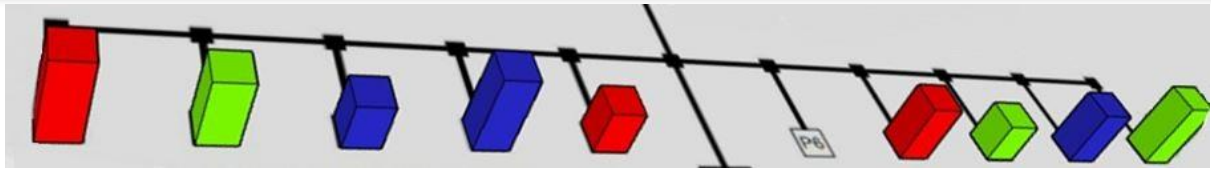

Figure 1(b): An Example Placement of Pizza
- Pizza:** Thermocol blocks represent pizzas, which are placed on the **Pick-up points**. Note that some **Pick-up points** may be empty. Three different flavors of pizza are represented by three colors Red (R), Blue (B) and Green (G) and three different sizes of pizza namely Large (L), Medium (M) and Small (S) are represented by three different heights. An example is shown in Figure 1(b).